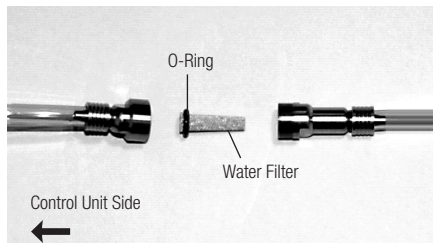

Fig.40
- 3) When the Water Filter case is separated, the Water Filter can be removed as shown in Fig. 40.